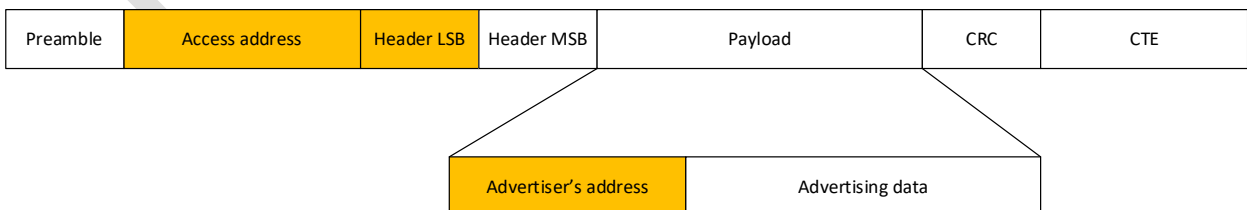

Figure 25 Link layer advertising packet format
A typical advertising packet's link layer packet format is shown in **Error! Reference source not found.** Figure 25. It consists of a preamble, access address, two header bytes, payload, CRC and CTE (constant tone extension). The header LSB (least significant byte) is configurable through the advanced advertising configuration tab. The header MSB is reserved to indicate the payload length. The payload typically consists of a 6-byte advertising address and a configurable advertising data covered in the other sections in this guideline. The configuration tool provides users with the flexibility to go beyond using standard Bluetooth link layer advertising packet format for their specific application needs.
- **Enable Custom PDU Header:** 1 byte of header LSB can be defined by user as shown in Figure 25.